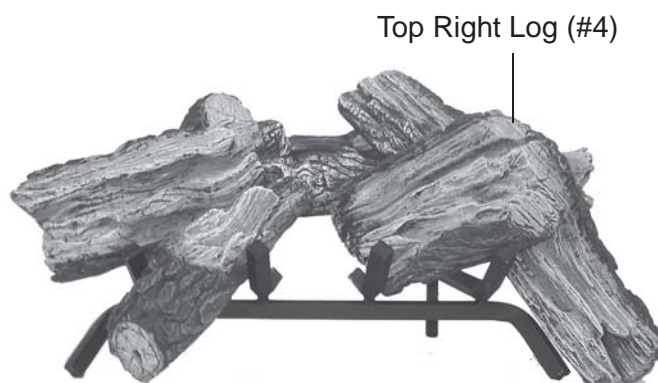

Figure 126 - Placing Top Right Log (#4)
5. Place Top Right Log #4 on Bottom Right Log #2 resting on grate. *See Figure 126.*